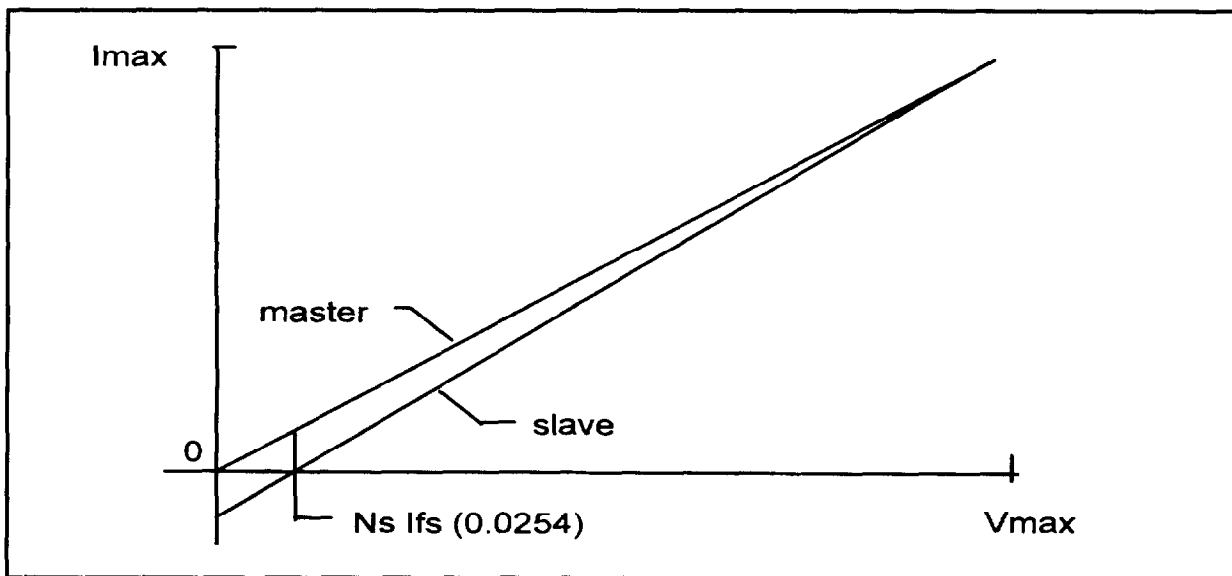

Figure F-1 Master/Slave Current Division
4. Program each slave supply for zero (0) output current either by pressing [CURRENT] [0] [ENTER] from the front panel keypad or sending the command "CURR:LEV 0" via the HP-IB (see notes 2 and 3).
8. Increase the master supply's output voltage. At low output currents, the master unit will be supplying **all** of the load current and the slave supplies will be sinking current, which is normal. At maximum output current each supply will be delivering an equal amount of output current. When operating at less than maximum current, it is normal to have unequal current sharing between the master and slave supplies. Current sharing among the supplies only becomes equal at maximum output current (see figure F-1).